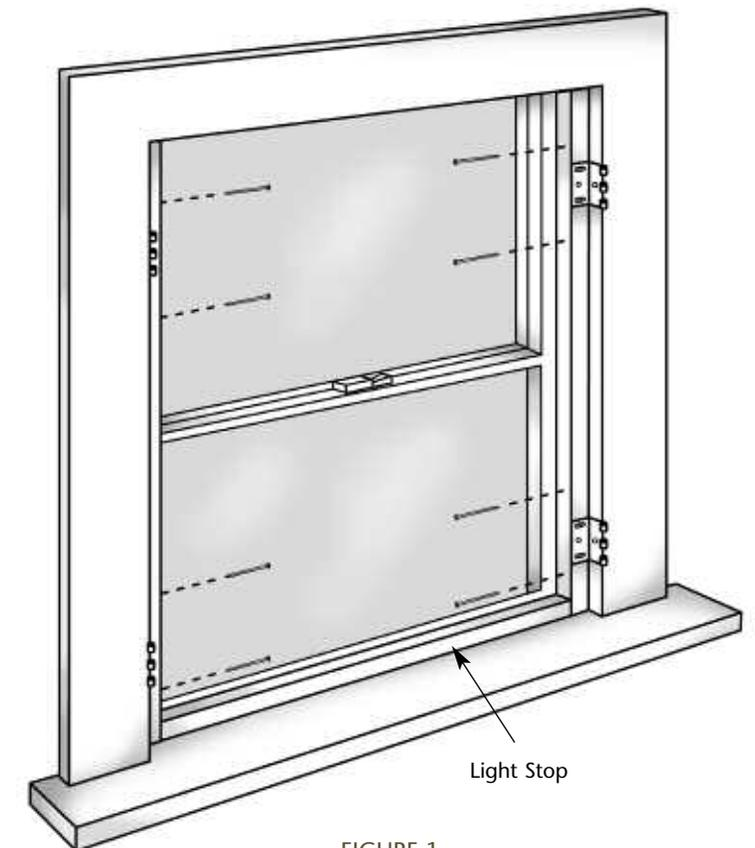

FIGURE 1
(See Fig. 1)
- 3 The mounting holes in the hanging strips are pre-drilled. Place the hanging strip inside the window opening back 1 1/4" from where you want the front of the shutter to be. Parallel the hanging strip to the window. With the hanging strip held in this position attach the hanging strip to the window casing using the mounting screws provided. In order to avoid damage to window casement we recommend pre drilling a 1/16" hole at each mounting hole location. (Fig. 1).